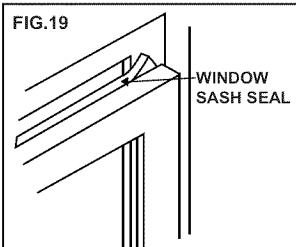

FIG. 20
2. Attach right angle safety lock to top window sash as shown (FIG.20).